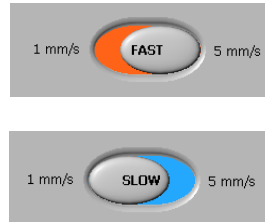

Figure 15: FAST/SLOW toggle switch
- 6) The switch in the left of the screen is used for changing the movement speed (Figure 15). If the probe is near any objects, during manual positioning, it is recommended to change the speed to slow. If the switch is in the “Fast” position the probe will move at the speed chosen by the “Max speed” slider. If the switch is in the “Slow” position, the probe will move at the speed 1mm/s.